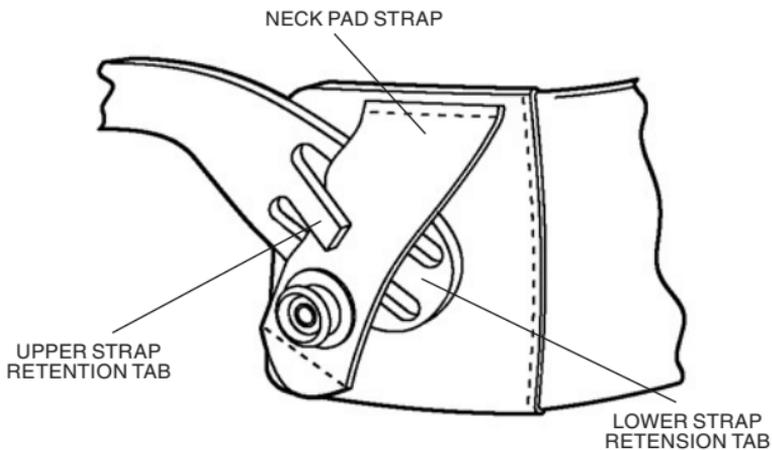

FIGURE 3.1. REINSTALLING THE NECK PAD
- (1) Lift the upper headband strap retention tab (see Figure 3.1) allowing the neck pad strap to be inserted underneath.
- (2) Slip the neck pad strap all the way under the upper strap retention tab and then pull the lower part of the neck pad strap under the lower strap retention tab.
- (3) Repeat steps 1 and 2 for the other side of the headband and neckband if necessary.